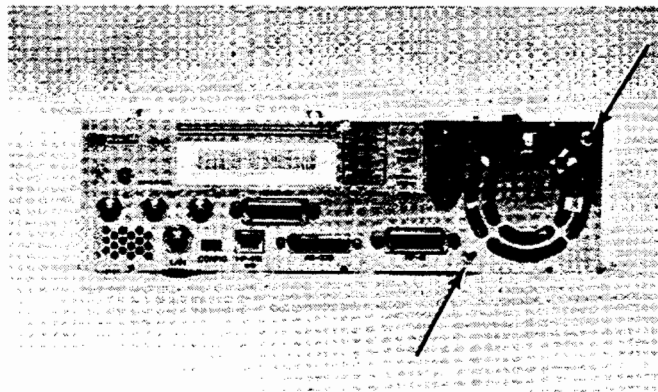

Figure 2-7. Rear Panel Screws
2. Remove the two screws holding the fan to the rear panel (Figure 2-7).
3. Remove the two screws holding the line filter to the rear panel (Figure 2-7).